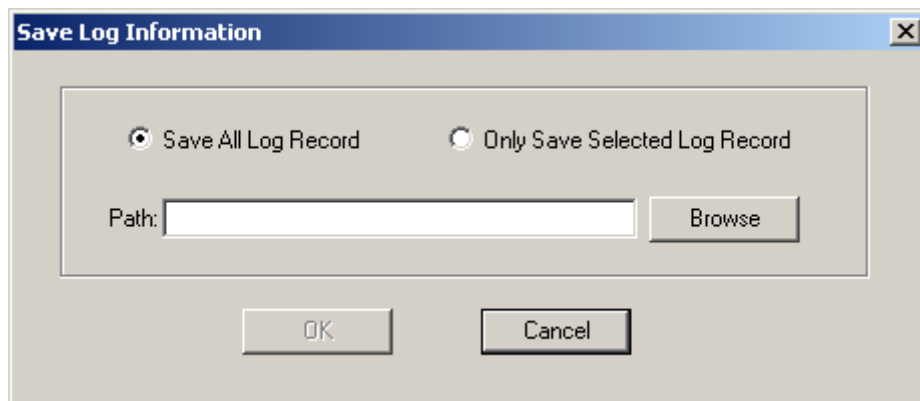

Figure 3-22 [Save Log Information] dialog box
- 1) In the main window of the CDR console, select [Log/Save to File], or in the [LogView] window, click the  icon on the toolbar. The [Save Log Information] dialog box is displayed, as shown in Figure 3-22.